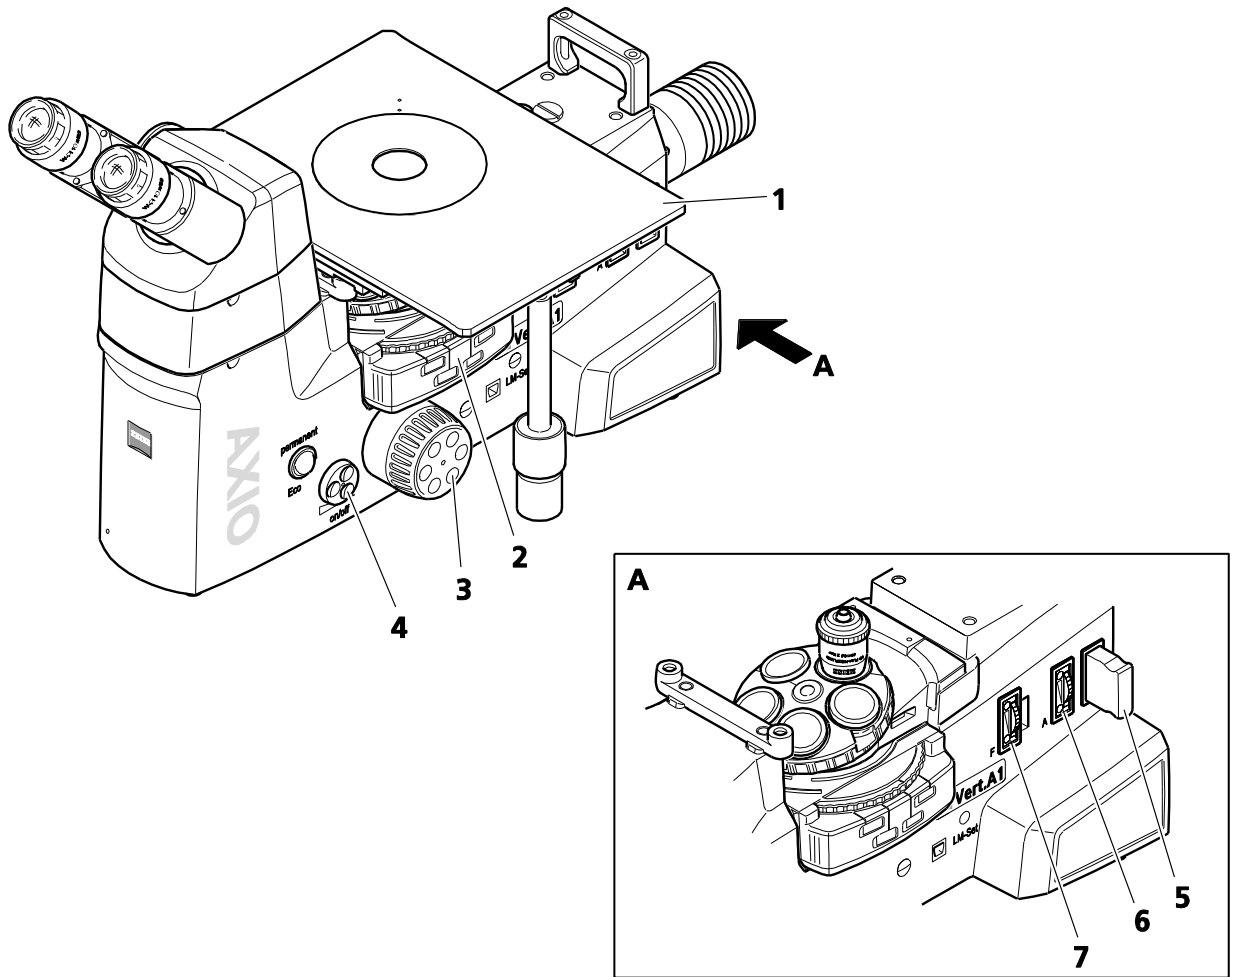

Fig. 4-15 Setting Bright Field
- Place the specimen on the specimen stage (Fig. 4-15/1) and focus at weak magnification, e.g., using the EC Epiplan 10x objective and the focusing drive (Fig. 4-15/3). Set the position for bright field on the reflector turret (Fig. 4-15/2).
- Close the luminous field diaphragm (Fig. 4-15/7) until its edge becomes visible in the field of view. Use ball-headed screwdriver SW 3 to center the luminous field diaphragm to the edge of the field of view.
- Close the aperture diaphragm (Fig. 4-15/6) slightly. Remove the eyepiece.
- If required, adjust the illumination intensity on the **On/off** control button (Fig. 4-15/4) or place a neutral-density filter into the filter slider (Fig. 4-15/5) and slide it into the light path.